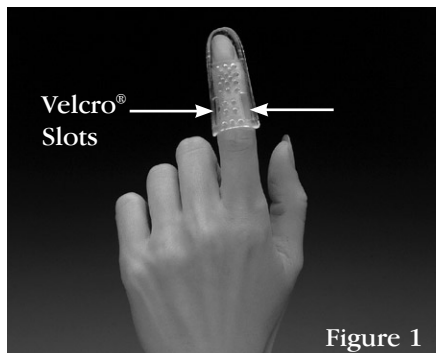

Figure 1
2. Thread Velcro® loop through the two slots located at the end closest to the PIP joint (see Figure 1).